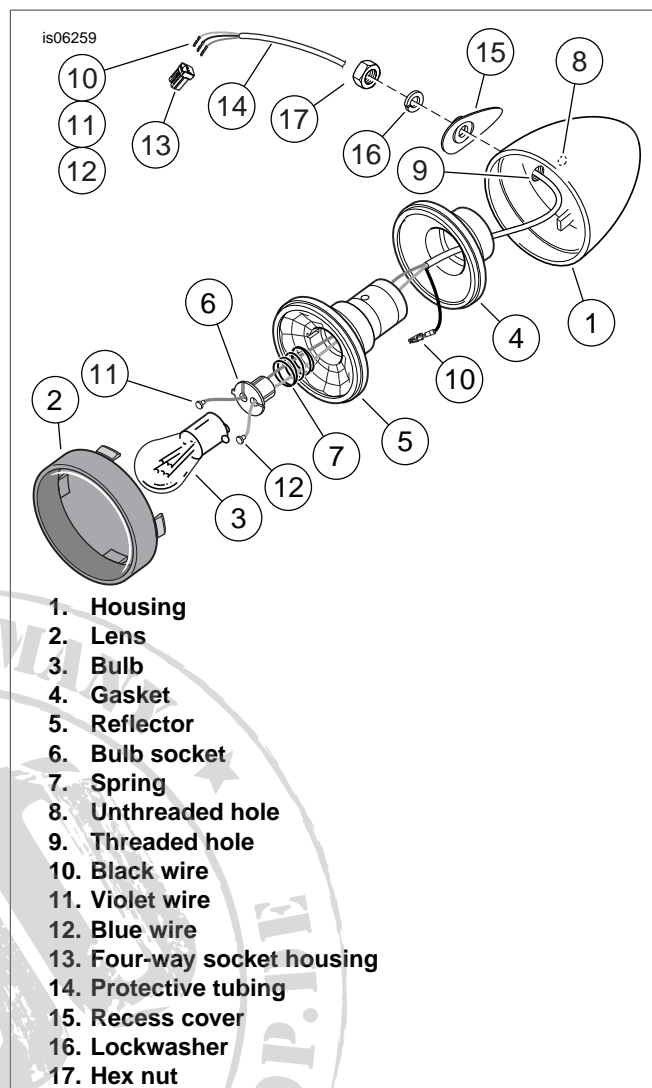

Figure 3. Stop/Tail/Turn Signal Lamp
2. See Figure 3. Remove the black (10), violet (11) and blue (12) wires and socket terminals from the STT socket housings (13). Set the STT lamps and socket housings aside for later installation.
8. See Figure 3. Insert a thin-blade screwdriver or similar tool into the slot at the bottom of the lens (2) of one of the STT lamps, and twist to unsnap the lens from the housing (1). Push the bulb (3) in and rotate counterclockwise to remove.
14. See Figure 3. Thread the wires from the threaded stud on the STT relocation weldment through the **threaded** hole (9) in the lamp housing (1) and the center of the rubber gasket (4).
4. See Figure 3. Remove the black (10), violet (11) and blue (12) wires and socket terminals from the stop/turn signal socket housings. Set the stop/turn signal lamps and socket housings aside for later installation.
- See Figure 3. Insert a thin-blade screwdriver or similar tool into the slot at the bottom of the lens (2) of one of the stop/turn signal lamps, and twist to unsnap the lens from the housing (1). Push the bulb (3) in and rotate counterclockwise to remove.
- Insert the tool between the outer edge of the rubber gasket (4) and the inside of the housing. Gently pry up the reflector (5) until free.
- Remove the ground terminal and black wire (10) from the back of the reflector.
- See Figure 3. Thread the wires from the threaded stud on the stop/turn signal relocation weldment through the **threaded** hole (9) in the lamp housing (1) and the center of the rubber gasket (4).